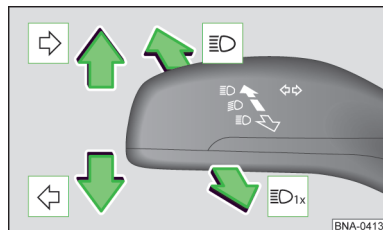

Fig. 29
Control stalk positions » fig. 29
- Press the control lever all the way into position \rightarrow or \leftarrow until it stops » **fig. 29** on page 38.